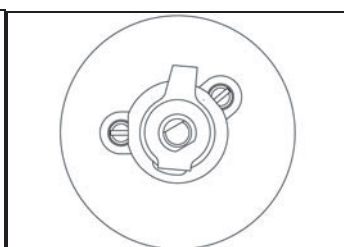

Fig.14
- The wok burner has 2 adjustment screws on either side of the body of the valve (Fig. 14). Screw A is for the outer ring and screw B is for the inner ring. Turn the choke screw to the right or left until the burner flame is adjusted to minimum.